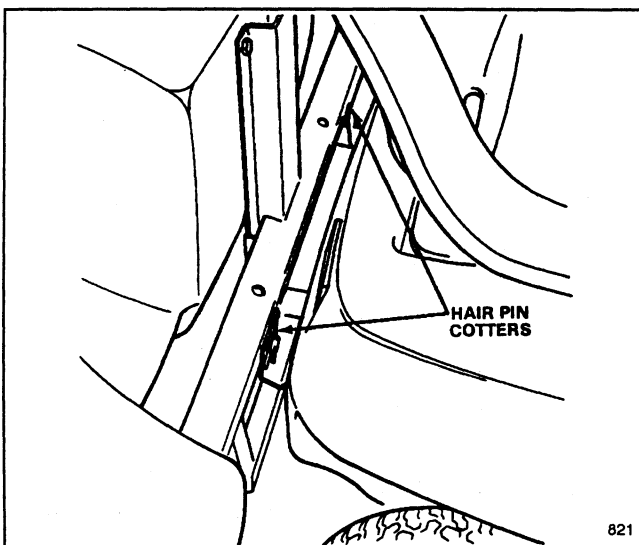

Figure 6
2. Rotate grass catcher up so mounting pins line up with mounting holes in tractor mounting bracket. Push pins through holes and retain with hairpin cot- ters (Fig. 6).